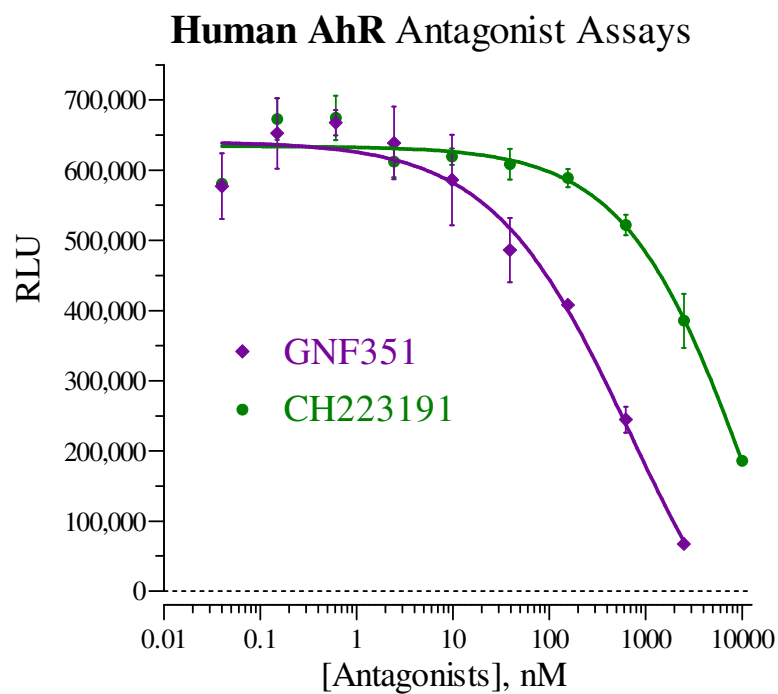

Figure 3. Antagonist dose-response analyses of Human AhR.
- *Optional*: Antagonist reference compound (see Figure 3).